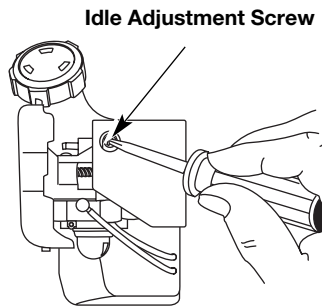

Fig. 29
The idle speed of the engine is adjustable. An idle adjustment screw is reached through a hole in the top of the engine cover (Fig. 29).
2. Release the throttle trigger and let the engine idle. If the engine stops, insert a small phillips or flat blade screwdriver into the hole in the air filter/muffler cover (Fig. 29). Turn the idle speed screw in, **clockwise**, 1/8 of a turn at a time (as needed) until the engine idles smoothly.